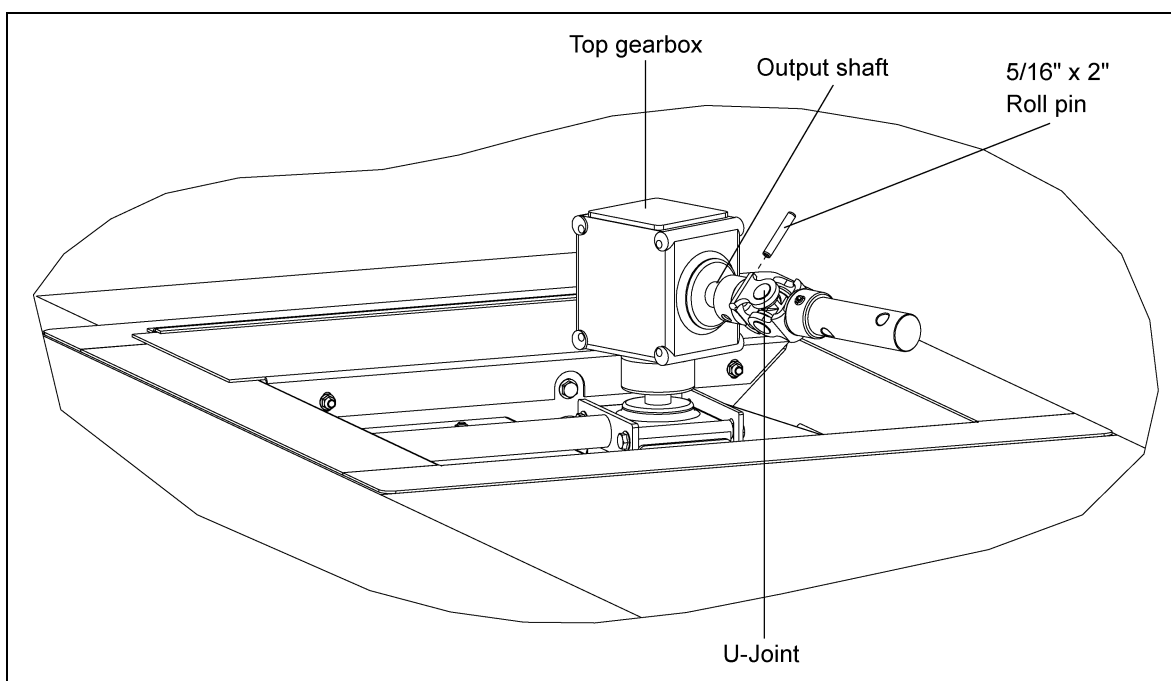

Figure 4Z
- b. Secure the U-joint using a 5/16" x 2" roll pin. *(See Figure 4Z.)*